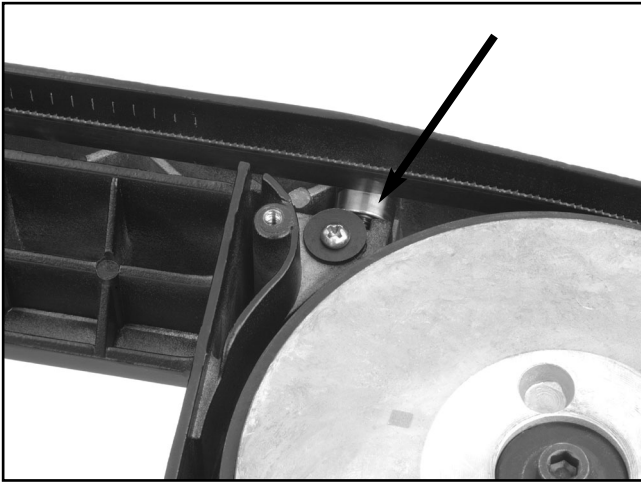

Figure 12. Rear blade guide bearing.
9. Make sure the back of the blade is in contact with the guide bearings that support the back of the blade (Figure 12).